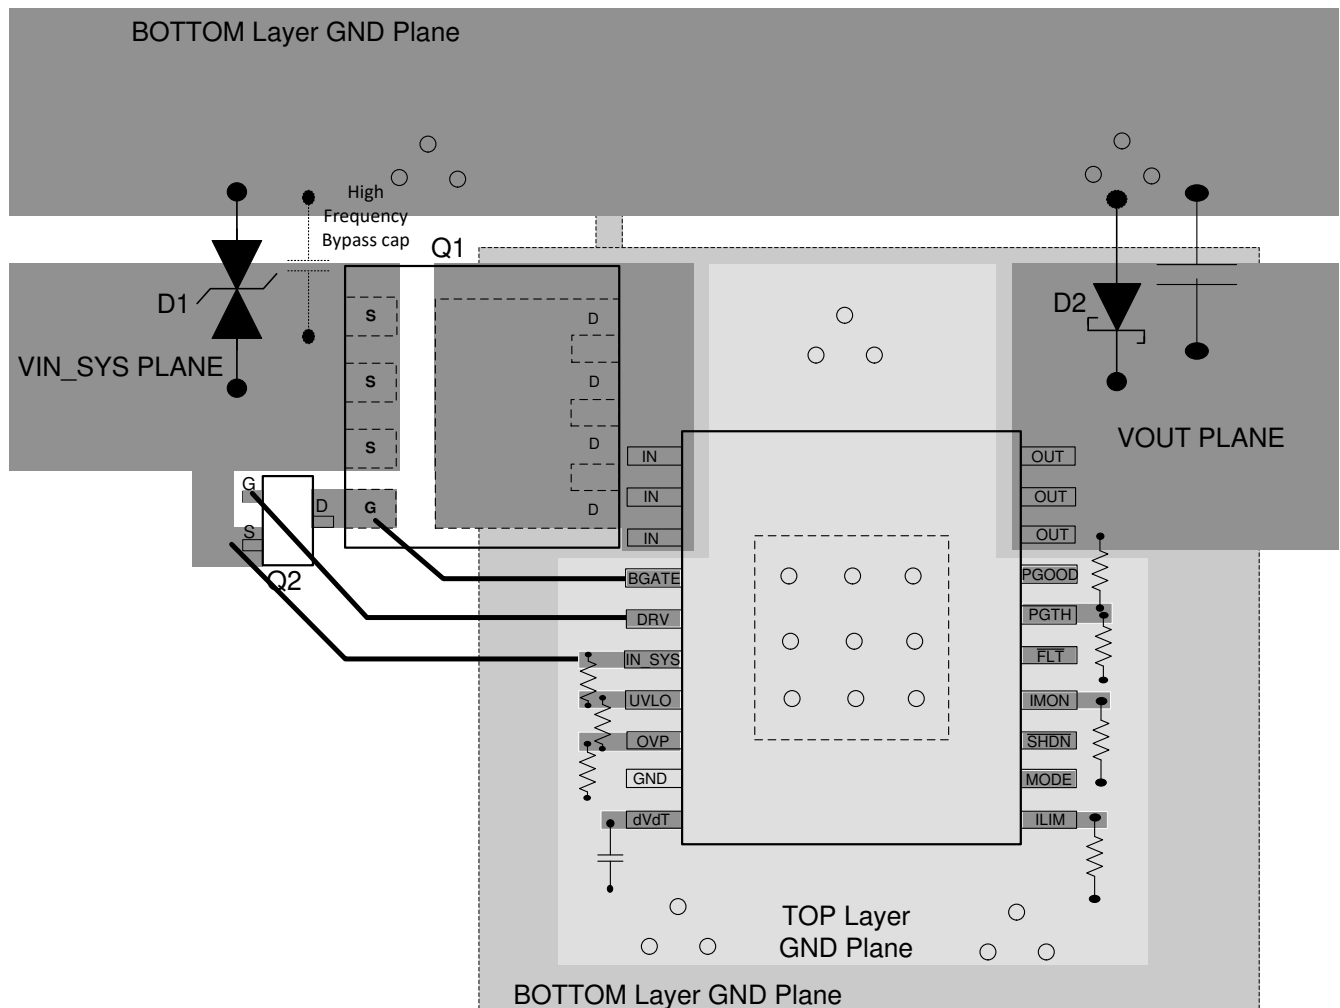

图 12-2. Typical PCB Layout Example With HTSSOP Package With a 2 Layer PCB
- The external FET Q1 should be placed with DRAIN close to the  $V_{\text{IN}}$  pins of the IC and connected through a plane. The fast pull down switch Q2 DRAIN and SOURCE should be placed very close to the GATE and SOURCE terminals of Q1 with very short loop. See Figure 12-1 and Figure 12-2 for a typical PCB layout example.